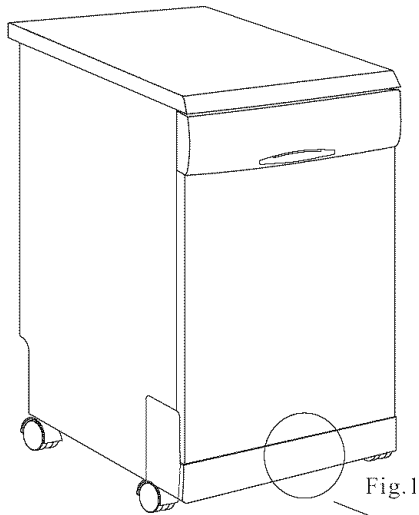

Fig.1
- The overflow container (water plug) is located behind the lower kick-plate. (See Fig. 1)